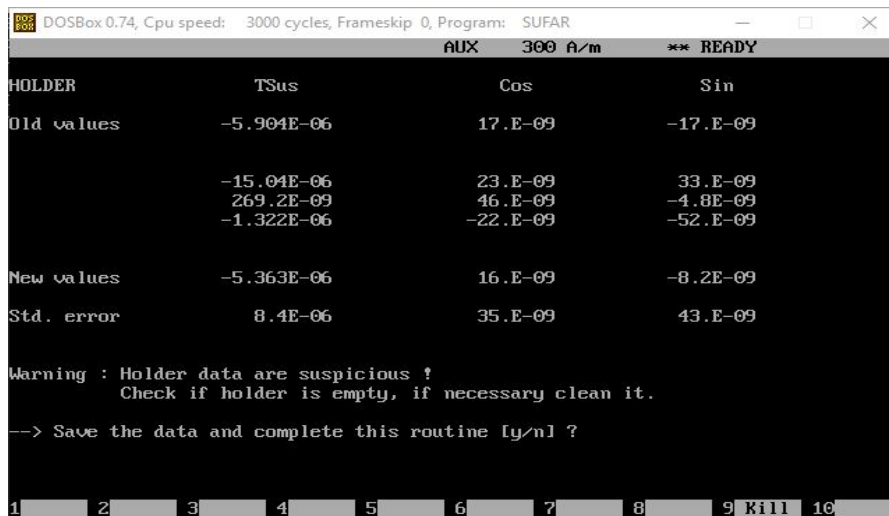

Figure 13. Holder Correction window after measurement is complete. For this measurement, the values are considered suspicious and a warning is given.
4. When the measurement is complete, the display will prompt the user to save (Figure 13).